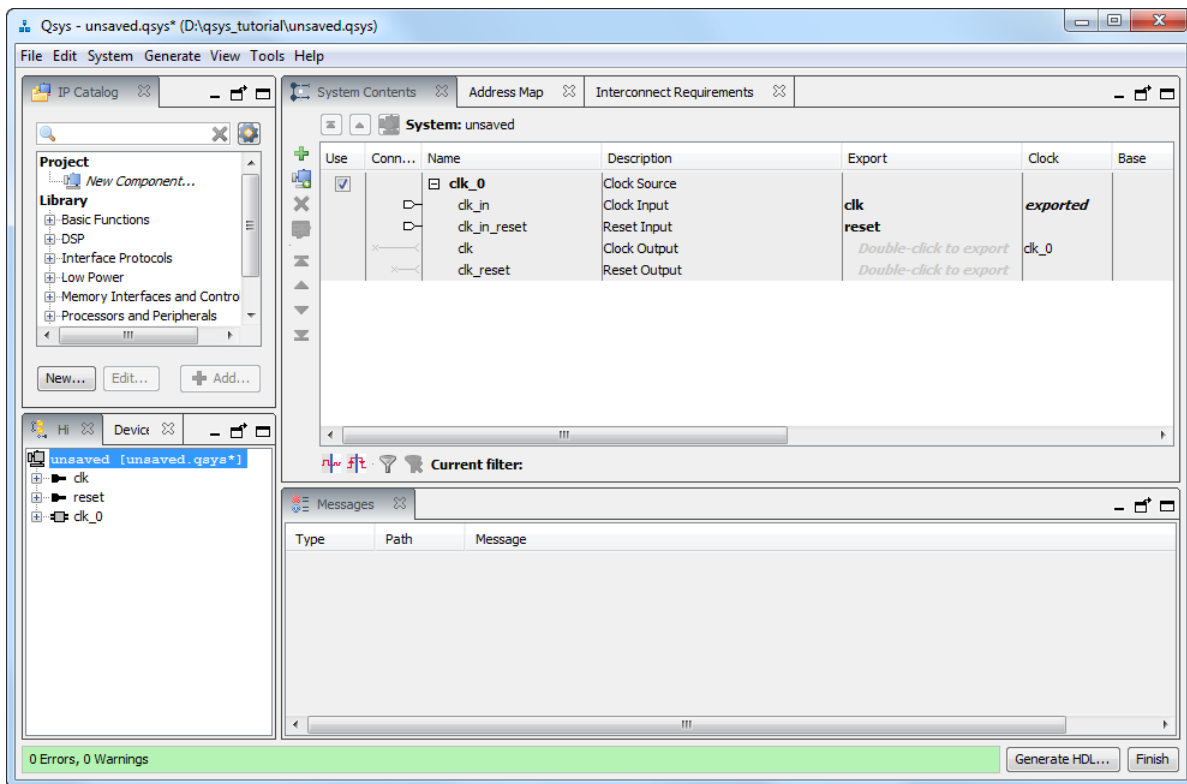

Figure 4. Create a new Nios II system.
- After completing the New Project Wizard to create the project, in the main Quartus Prime window select **Tools > Qsys**, which leads to the window in Figure 4. This is the System Contents tab of the Qsys tool, which is used to add components to the system and configure the selected components to meet the design requirements. The available components are listed on the left side of the window.